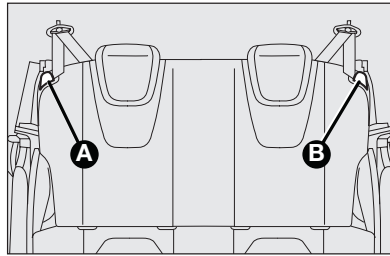

fig. 45
Partial extension (50/50) (where provided) fig. 45
- operate levers **A** or **B**-fig. 45 to release respectively the left or right part of the backrest and guide the backrest onto the cushion.
- operate levers **A** and **B**-fig. 45 to release the backrests and guide them onto the cushion.